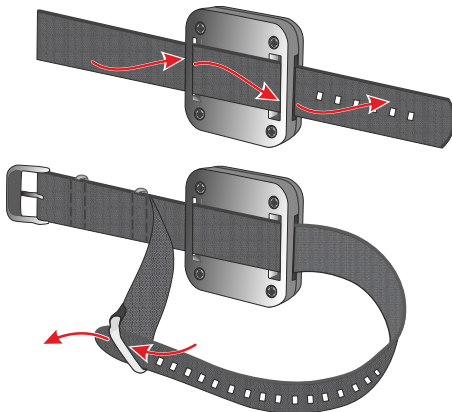

Fig. 2 Wrist strap installation
1. Wrist placement like a wristwatch (fig.2).